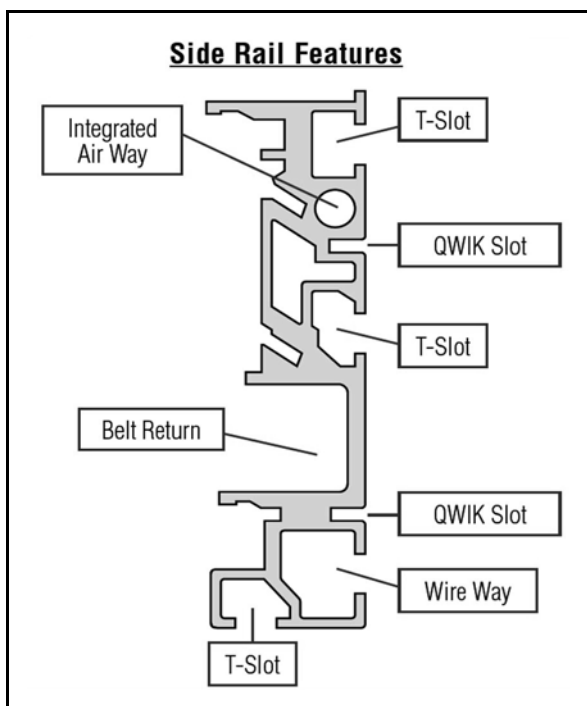

Figure 18
2. Locate the QwikSlot. The Dorner 5200 series conveyor has (2) QwikSlot locations (**Figure 18**).